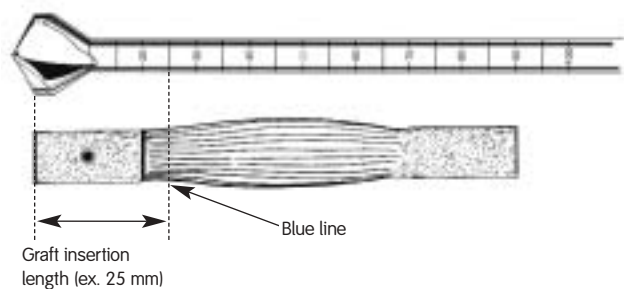

Figure 9: Marking the graft
2. With the endoscopic cannulated drill bit pushed against the back wall of the femoral socket, directly read the measurement off the drill bit at the base of the femoral socket (Figure 8-B; example: 25 mm). Using a surgical marker, place a corresponding “blue line” on the graft (Figure 9). This mark indicates the depth of the graft in the femoral tunnel.